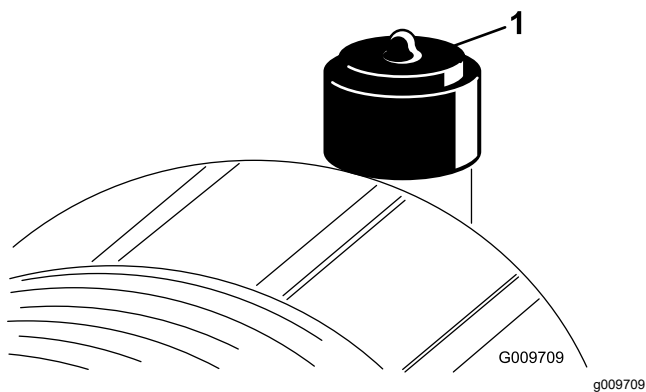

Figure 55
Service the air-cleaner filter only when the service indicator (Figure 55) requires it. Changing the air filter before it is necessary only increases the chance of dirt entering the engine when you remove the filter.
2. Reset the indicator (Figure 55) if it shows red.